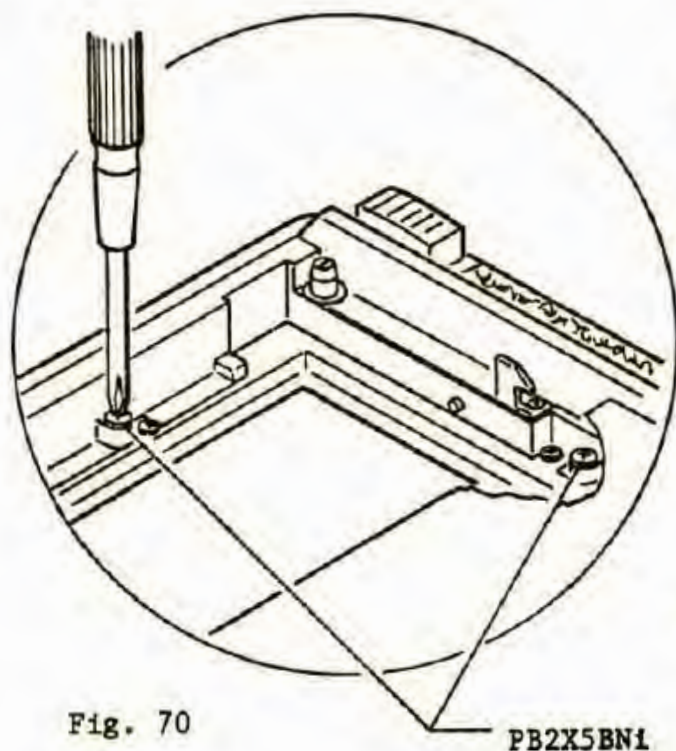

Fig. 70
- 1) After removing Focusing screen, adjustment is made by three adjusting screws PB2x5BN1 as shown in Fig. 70.